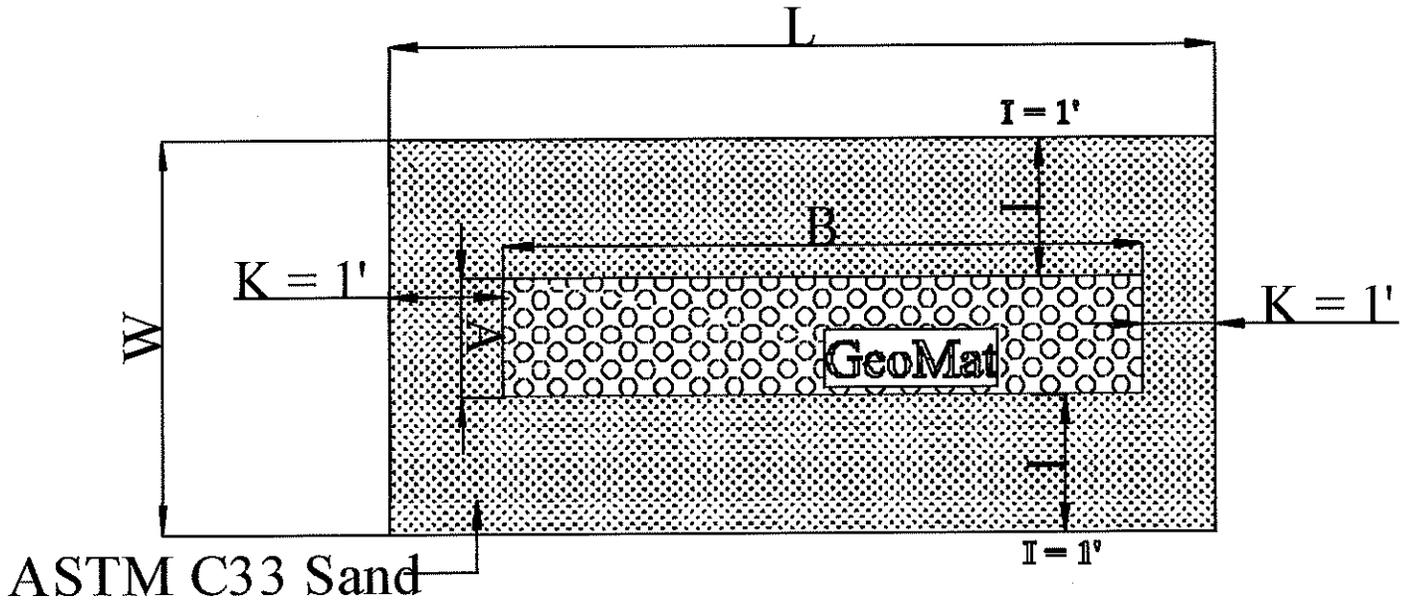

Figure 3 Level in Ground system
- B. Component Design – Design of the component is based upon the DWF and the soil characteristics. It must be sized such that it can accept the daily wastewater flow without causing surface seepage or groundwater pollution. Consequently, the basal area must be sufficiently large enough to absorb the effluent from the GeoMat component. The GeoMat Component must also be designed to avoid encroachment of the water table into the treatment and dispersal zone. See Figure 3
2. Cover Material – The cover material (H) provides frost protection, a suitable growth medium for vegetation, and evapotranspiration. The design uses 12" above the distribution Component (H).
3. In situ soil basal Area (B X W) – The length and width of the entire component are dependent upon the length (B) and width(A) of the distribution cell. The fill length consists of end slopes (K) and the distribution cell length (B). Where K is a constant 1'. The fill width consists of the GeoMat cell width(3.25'), # of Cells, cell spacing (S), and the(I) dimension {1'} needed to obtain the adequate basal area. See Formula 1, 2 and figure 3.